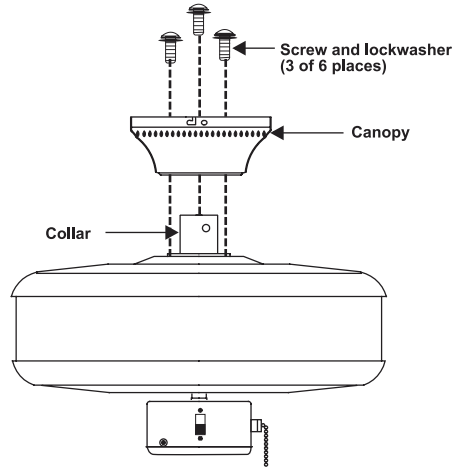

Fig.8
4. Place the ceiling canopy over the collar at the top of the motor. Align the mounting holes with the holes in the motor and fasten using the screws and lock washers provided (Fig.8).
5. Tighten the mounting screws securely.(Fig.8)